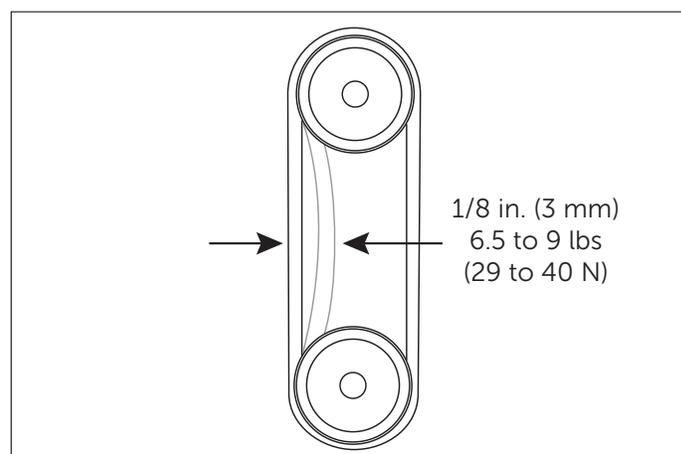

Figure 4.2: Proper Debris Blower Drive Belt Tension
1. Remove the belt guard from the debris blower housing by removing the four (4) carriage bolts securing it to the housing.
2. Loosen the two (2) nuts and two (2) bolts that secure the lower bearing support and turn the adjustment nuts on each side until the required tension is reached (Figure 4.2).